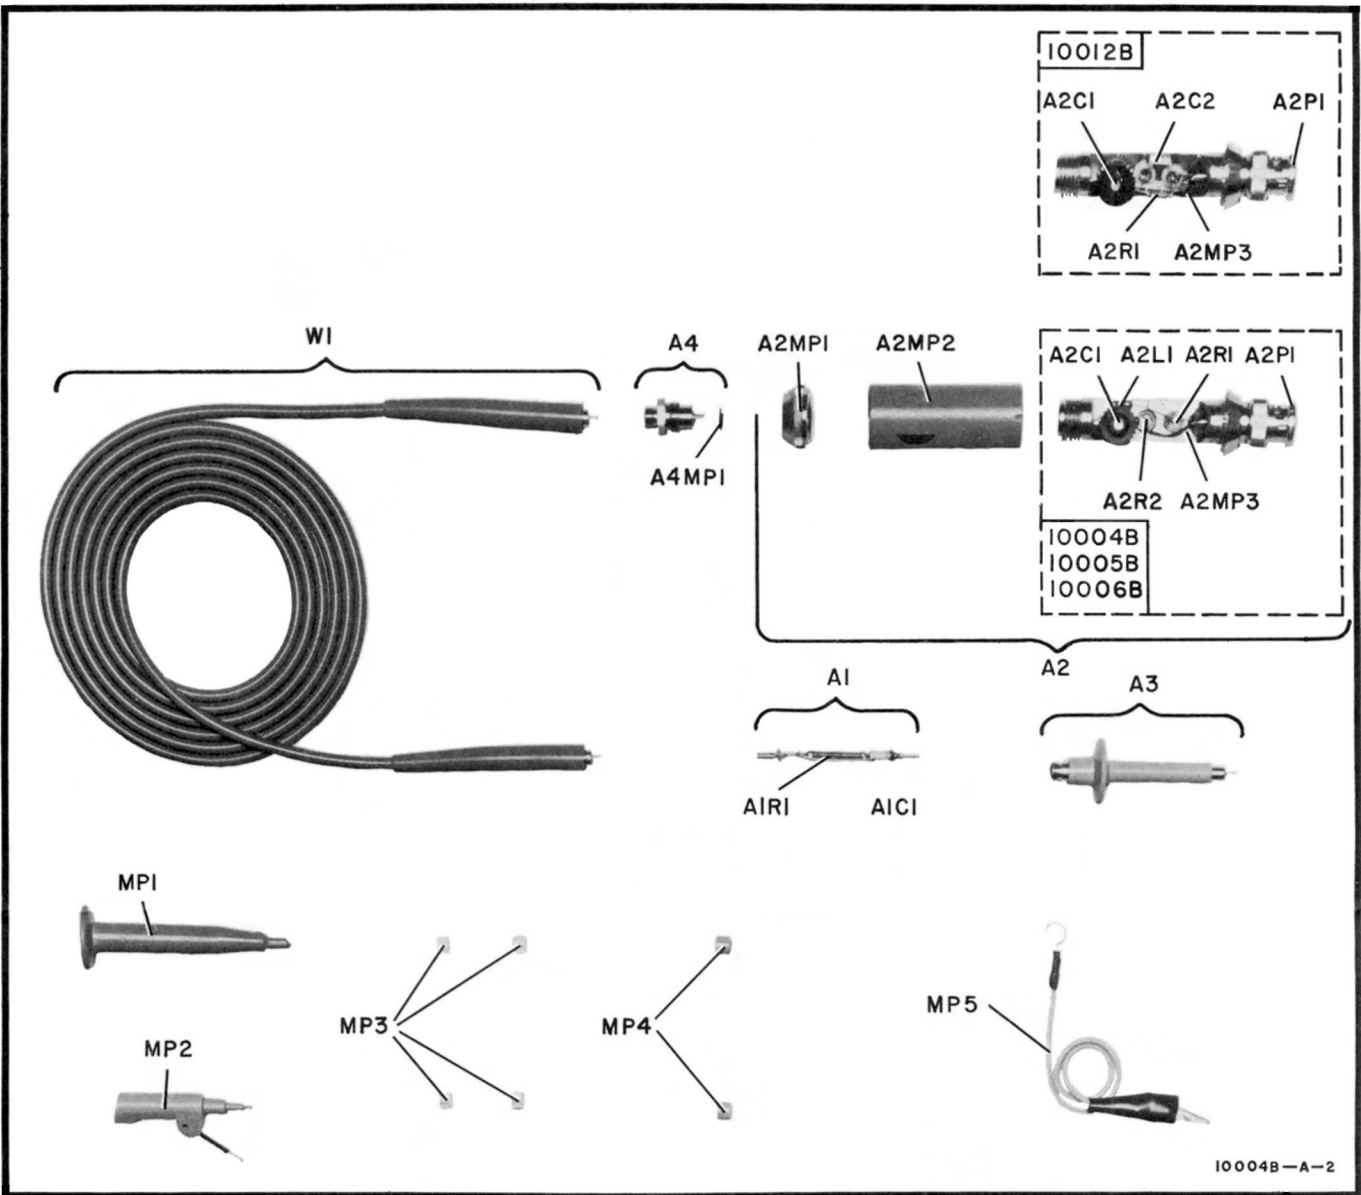
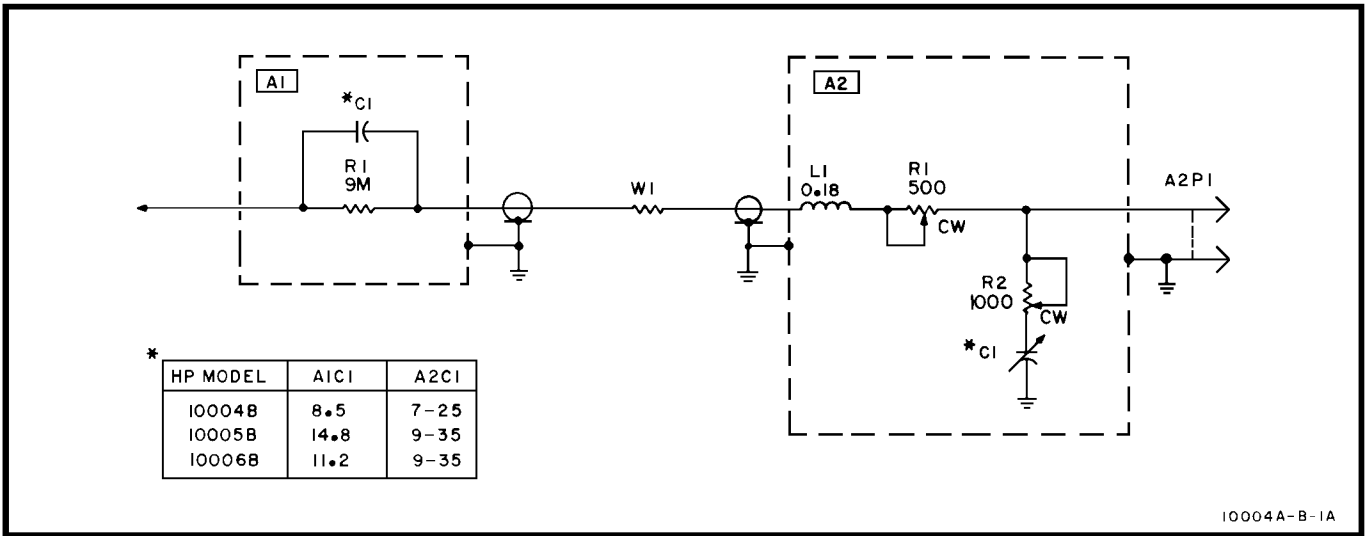

Figure 2. Probe Assembly and Accessories
Figure 3. Models 10004B, 10005B, 10006B Schematic
8. Table 2 lists test equipment recommended to perform the adjustments. See Figure 2 for adjustment locations and Figures 3 and 4 for the probe schematics.
13. Figure 2 shows an exploded view of the probe with its accessories. Do not disassemble the probe any further than shown. If a faulty part is located in a part of the probe that cannot be disassembled, it should be returned to the nearest Hewlett-Packard Sales/Service Office for repair or replacement.
15. Replaceable parts for the probes are illustrated in Figure 2 and listed in Table 3. When ordering a part, address the order to your nearest Hewlett-Packard Sales/Service Office. Provide the model number of the probe and a complete description (including the HP Part No.) of the required components.